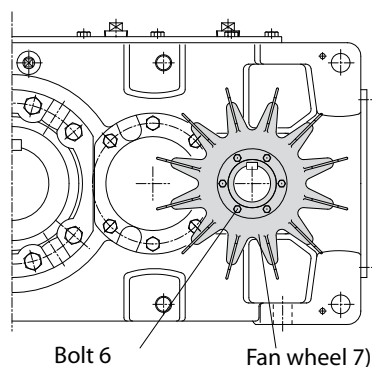

Fig. 6
3. Unscrew bolt 6) and remove the fan wheel 7) (Fig. 6).